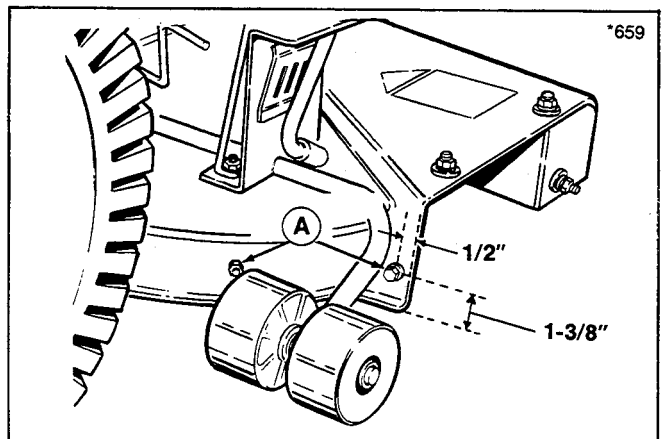

Figure 2.
3. For early models without baffle mounting holes (A, figure 2), drill a 9/32 inch hole 1/2 inch from edge of opening and 1-3/8 inch from bottom as shown. (The second hole will be drilled in step 5.)